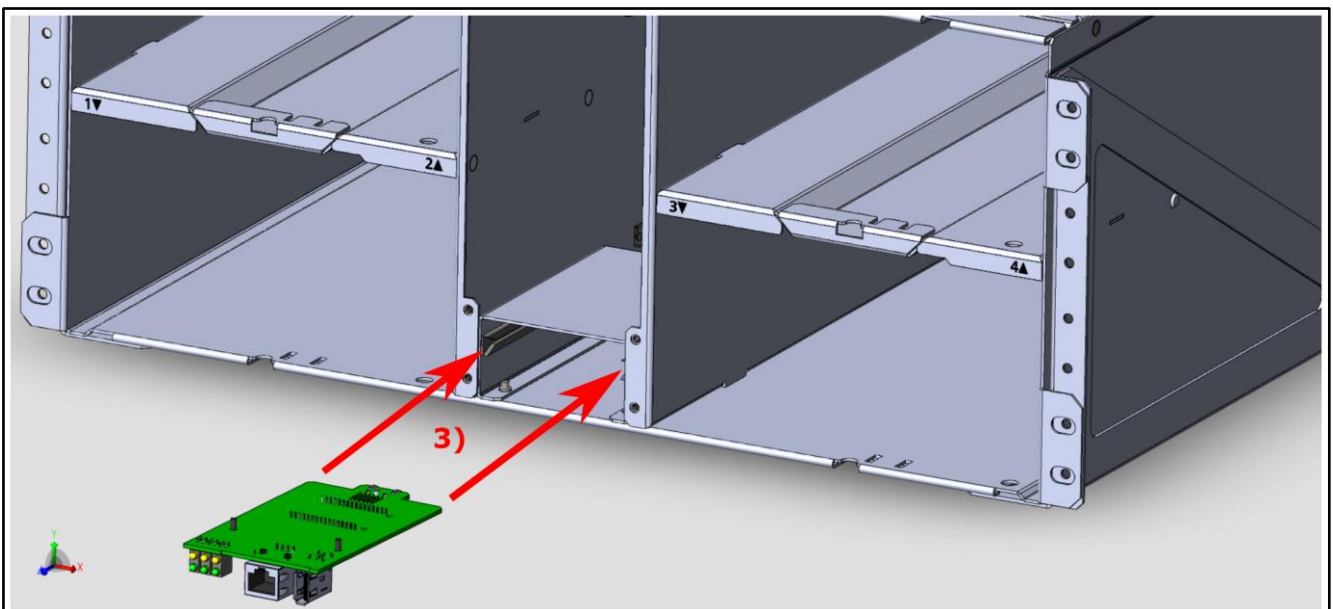

Figure 59: SB installation - inserting the Supervisory Board
- 3) Position the Supervisory Board as shown in Figure 59, and insert it aligning the board edges with the slide rails. Then move it backwards until it completely attaches to the backplane connector.